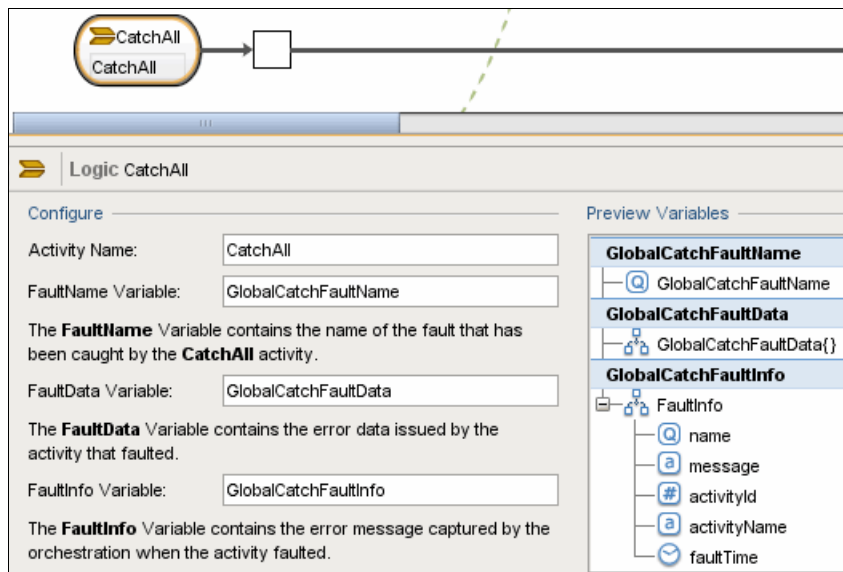

Figure 10-45 Global catch configuration
2. Click the CatchAll block, and rename the variables to GlobalCatchFaultName, GlobalCatchFaultData, and GlobalCatchFaultInfo. The result looks similar to that shown in Figure 10-45.